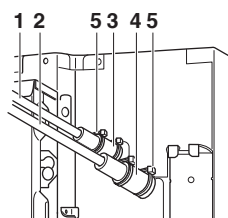

Fig. 12
- Finally, insulate as shown in Fig. 12 (use the supplied accessory parts)